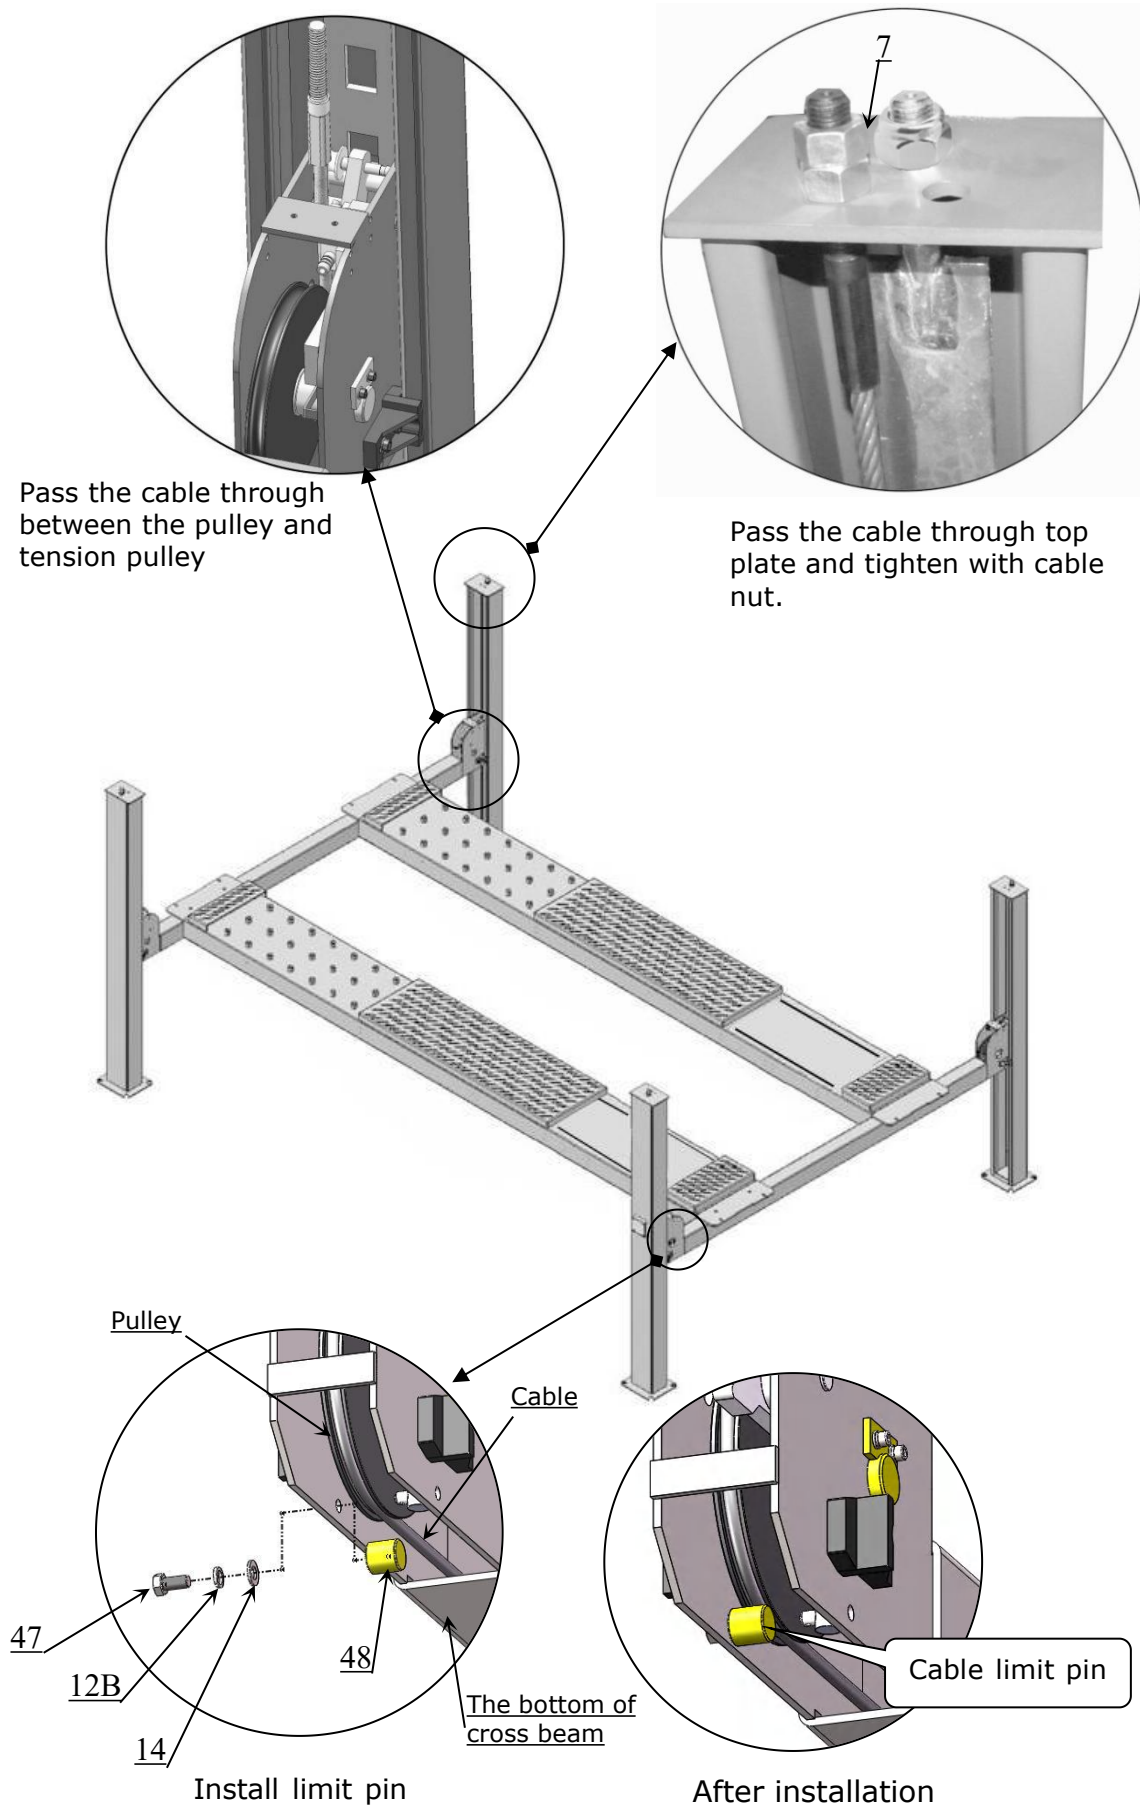

Fig. 25
2. The cable pass through the cross beam to top plate of columns and be screwed with cable nuts, then install cable limit pin (See Fig. 25).